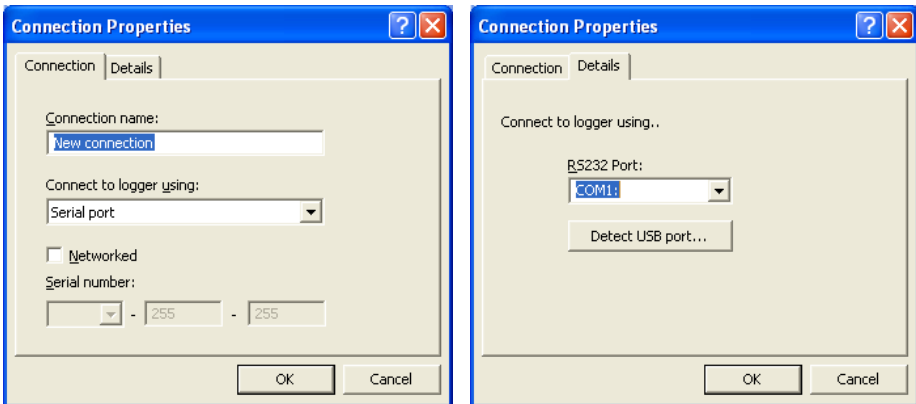

Figure A6 Connections Properties
3. In the **Connections** dialog, click **Add...** to pop up the **Connection Properties** dialog. See Figure A6.